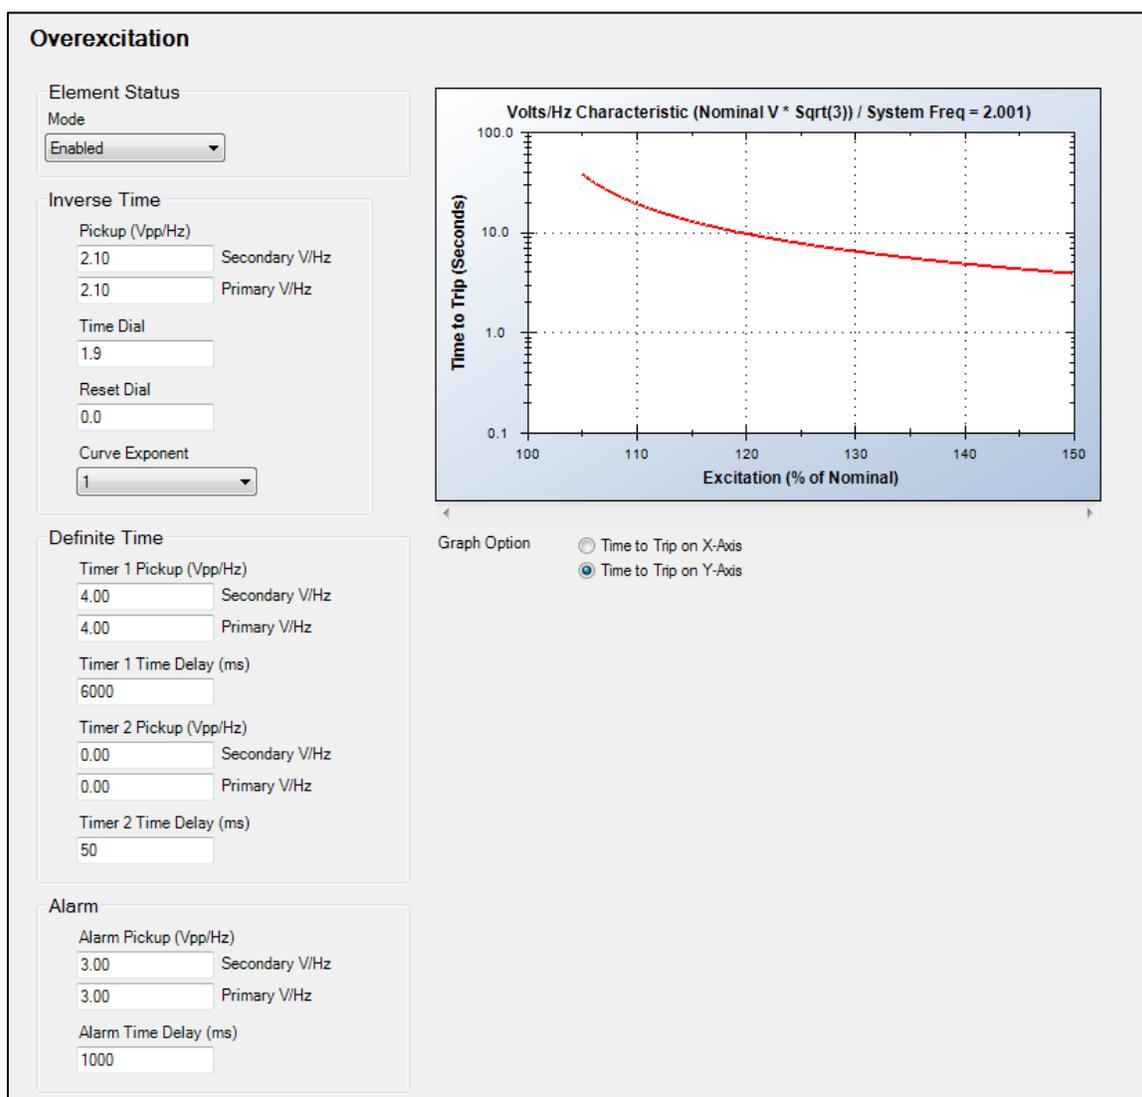

Figure 15-2. Overexcitation Settings Screen
Overexcitation operational settings are configured on the Overexcitation (24) settings screen (Figure 15-2) in BESTCOMSPlus.